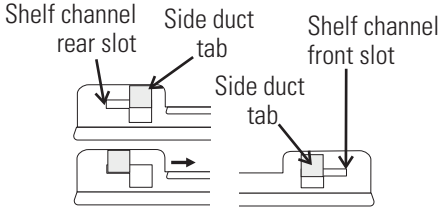

Figure 1-9. Slot and Tab
2. Referring to Figure 1-9, note that there is no difference between left and right side shelf channels.
3. Install the shelf channels by placing the channel's rear slot over the appropriate rear tab on the side duct. Pull the shelf channel forward and engage the channel's front slot into the side duct's appropriate forward tab. Refer to Figure 1-9.